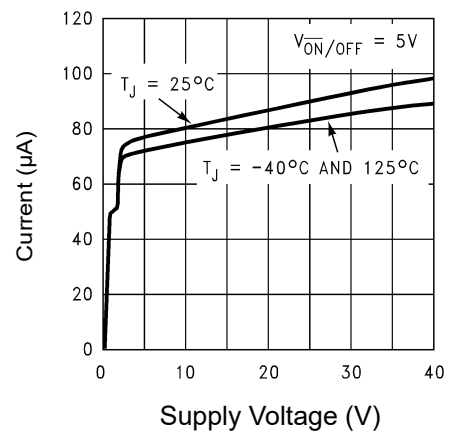

Figure 8: Quiescent Current
E. Select an appropriate inductor from the four manufacturer's part numbers listed in Figure 8.